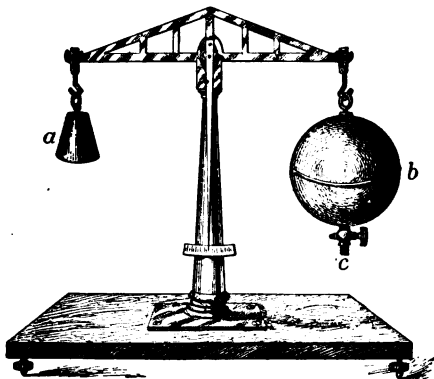

FIG. 35
**45. Cause of Atmospheric Pressure.** — Now how does the atmosphere exert pressure? In just the same way that liquids do, — because *gravity acts on all its particles, pulling them down*. We are not in the habit of thinking air weighs anything; yet if we stop and reflect that air is matter, and all matter is attracted by gravity, it is evident that air must have weight. This may be easily proved. Fig. 35 shows a pair of very sensitive scales. The globe *b*, full of air, is exactly balanced by the weight *a*.